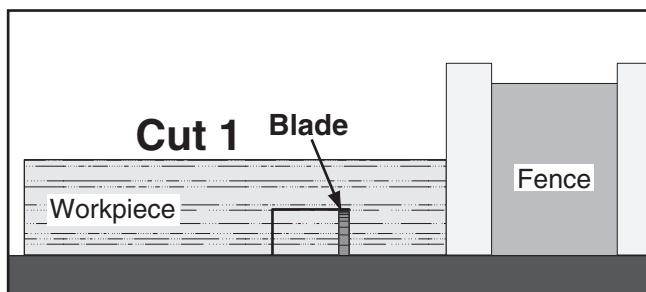

Figure 62. First cut for a single-blade dado.
5. Align blade to cut one side of dado, as shown in **Figure 62**.